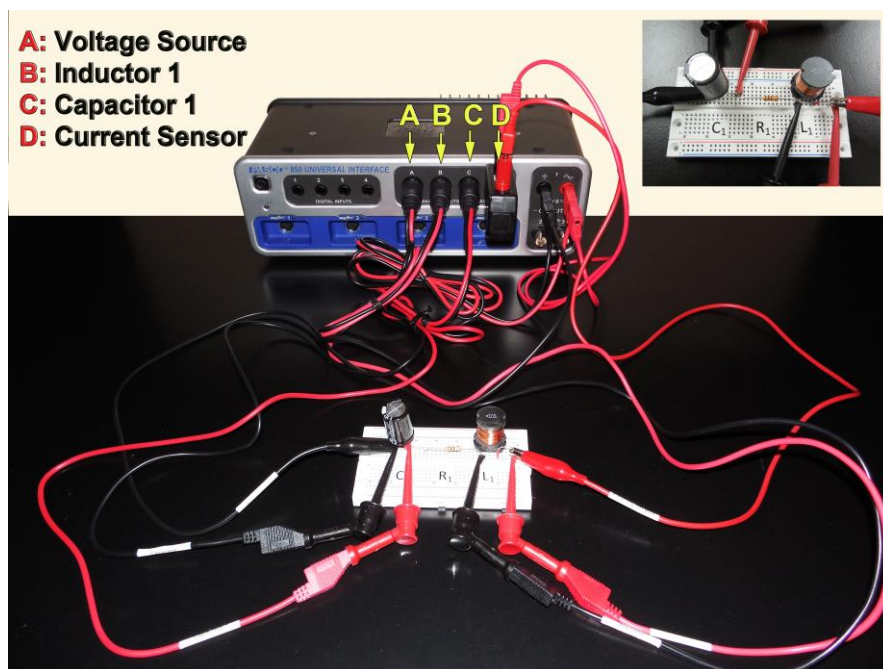

Figure 7
1. Connect the RLC Circuit together using  $R_1$ ,  $L_1$ ,  $C_1$  and the interface as in **Figure 7**. The AC source is from Output 1 of the interface. The current sensor, attached to Input D on the interface, is wired in series from the positive side of the source to the inductor  $L_1$ . The voltage sensor, attached to Input C on the interface, is connected across the capacitor  $C_1$ . The voltage sensor, attached to Input B on the interface, is connected across the inductor  $L_1$ . The voltage sensor, attached to Input A on the interface, is connected across the source from Output 1.